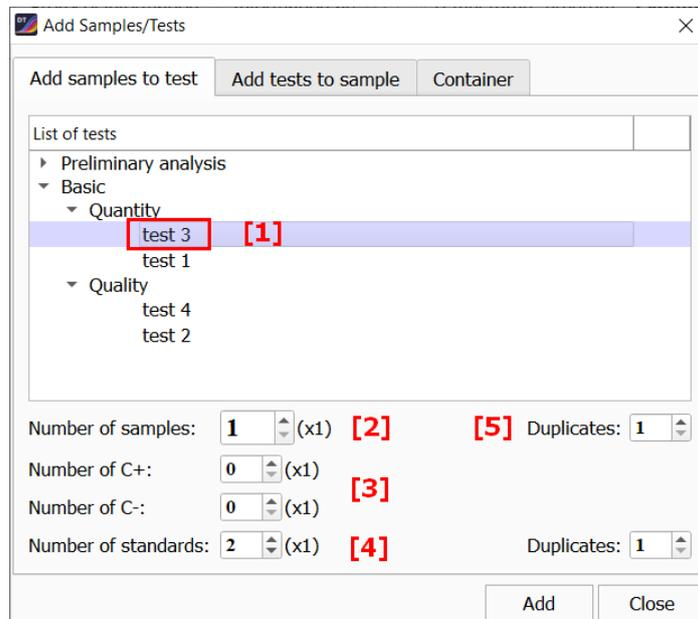

Figure 25 – "Add Samples/Tests" window, the **Add samples to test** tab
- 1 Click the **Add Samples/Tests** button . The "Add Samples/Tests" window will appear on the screen (fig. 25).